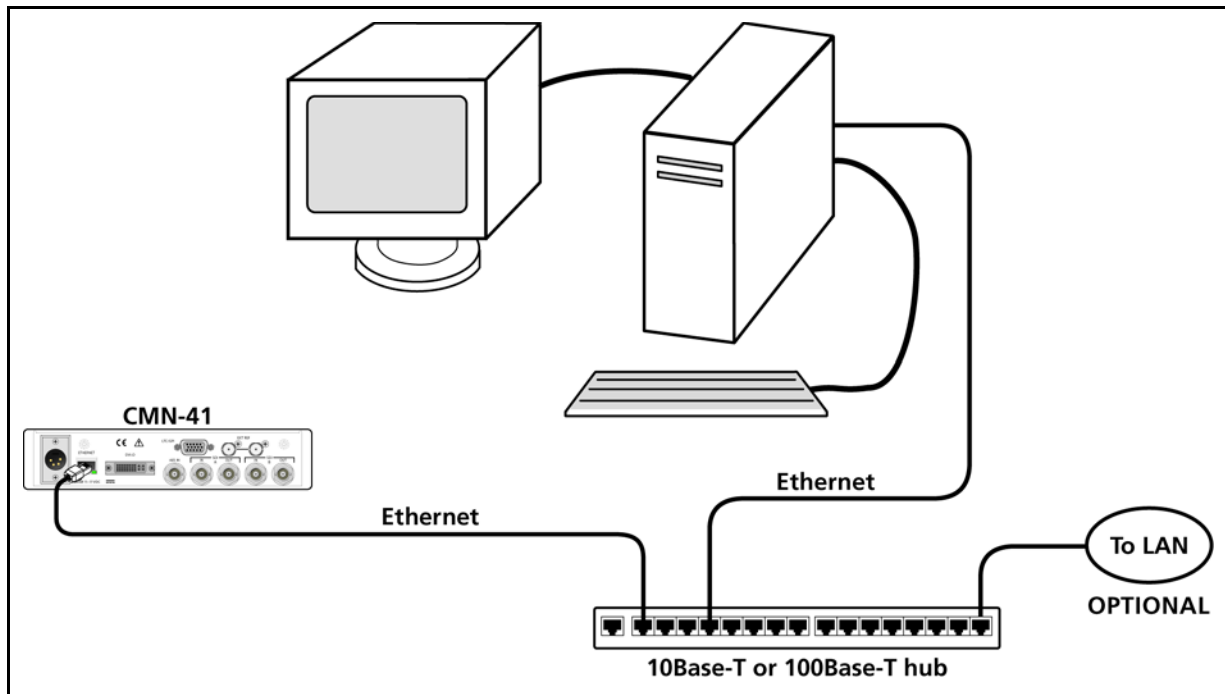

Figure 2-4 CMN-41 Network PC Connection
- For a network connection, connect the network hub to the back panel of the CMN-41 using a CAT5 network cable (not included). See Figure 2-4.